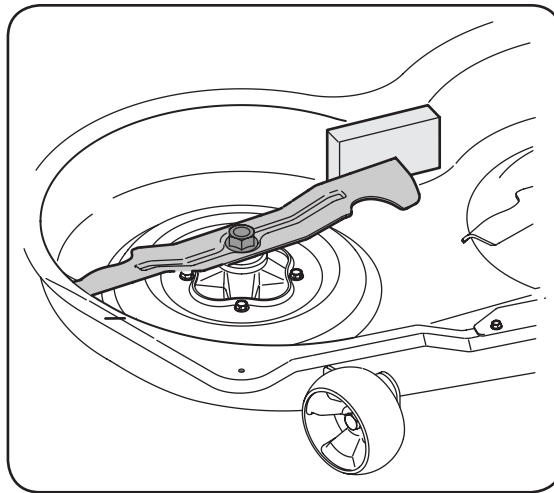

Figure 6-7
2. Place a block of wood between the center deck housing baffle and the cutting blade to act as a stabilizer. See Figure 6-7.
3. Remove the hex flange nut that secures the blade to the spindle assembly. See Figure 6-7.